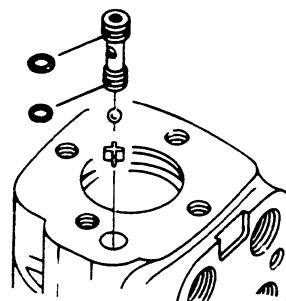

Figure 12A
- 5 Install set screw (not used on units with integral column, see Fig. 12A). Use a 1/4 inch hex key to torque set screw to 11 Nm [100 lb-in]. To prevent interference make sure top of set screw is slightly below housing mounting surface.